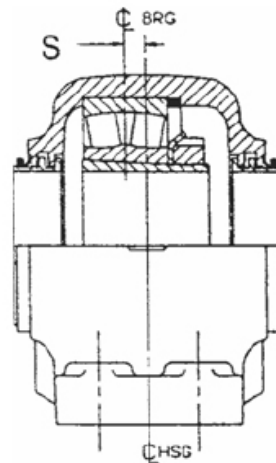

Figure 2
**NOTE:** Bearing can only be correctly installed one way (Figure 2).
d. **Bearing** — Make sure the internal clearance has been written down. Install bearing on adapter sleeve, large end of tapered bore first. Locate bearing in proper position on shaft. Before tightening refer to Figure 2 and Table 4.
**NOTE:** Be sure the housing is positioned as shown in Figure 2 view relative to adapter nut.